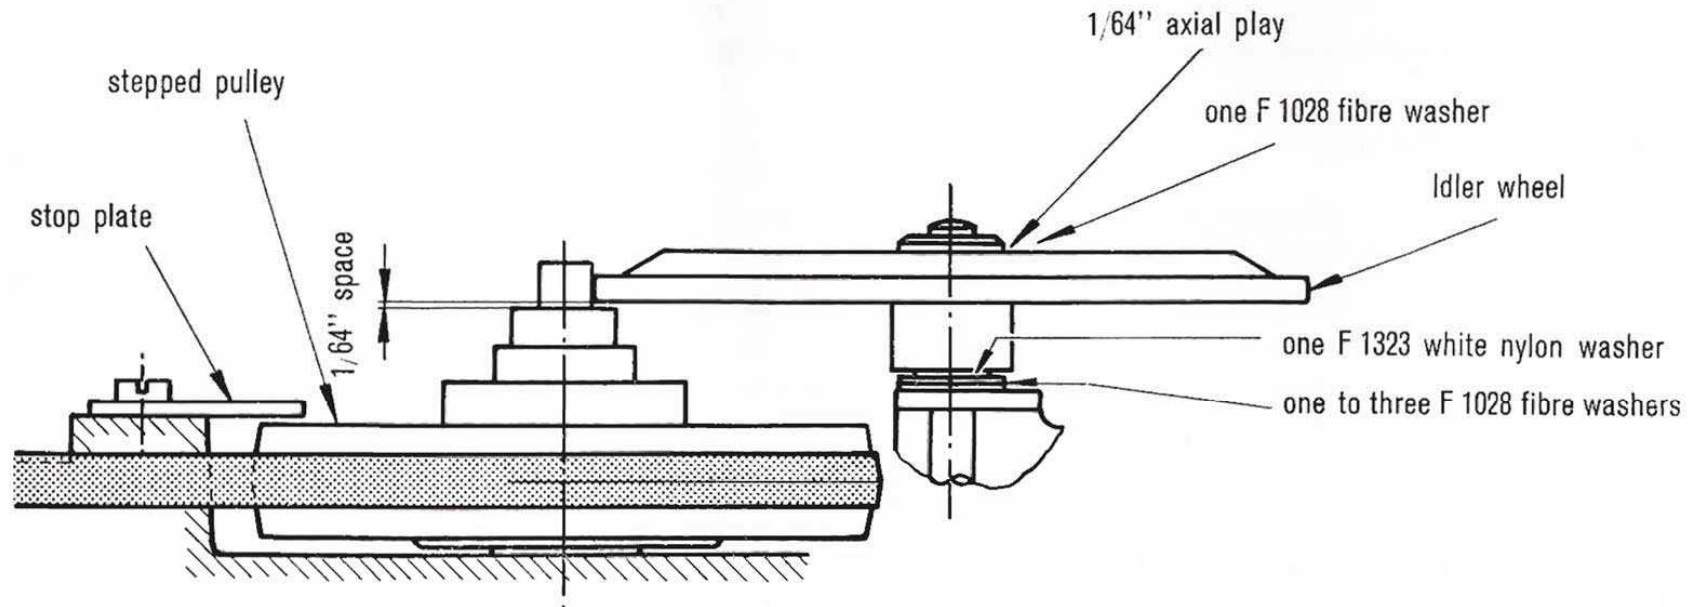

Fig. 9 : Stepped pulley and intermediate wheel.
5. See Fig. 9 for proper mounting of the idler wheel.
2. Turn the stepped pulley upside down, clean the inside of the bearing, by means of a small rolled piece of cloth and oil with industrial castor oil. See Fig. 9 for proper mounting of the idler wheel.
The specially developed synthetic rubber belt running on very large diameter pulleys will not, under normal use, be subject to wear or deformation. If a replacement is necessary first remove the stop plate of the stepped pulley (see Fig. 9) to give free access to the belt **and clean the two pulleys with denatured alcohol.**